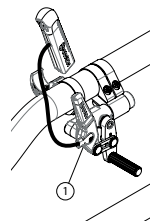

Fig. 28.1
- Loosen screw (1) (Fig. 28.1).
- Re-tighten screw (1) on the lock lever.